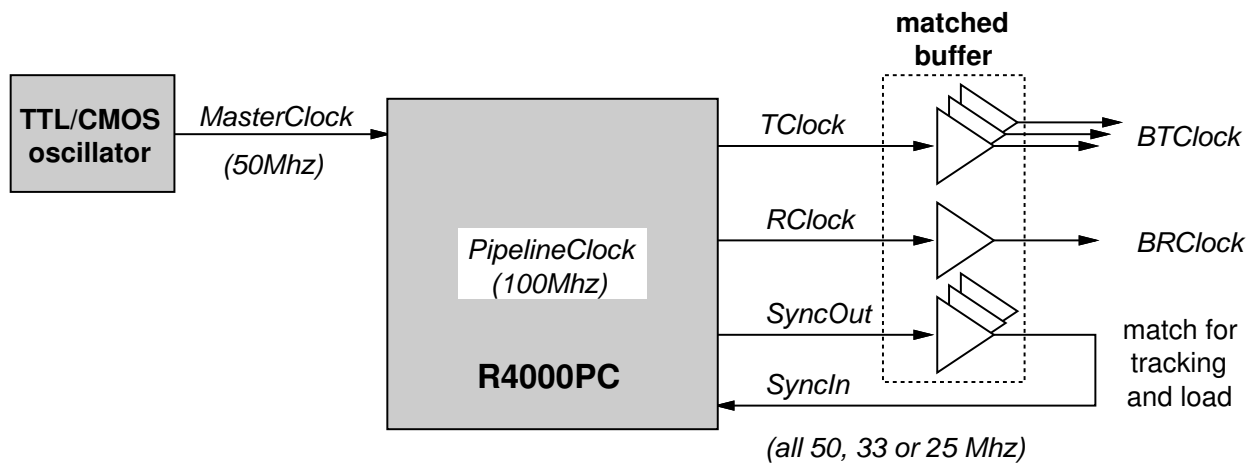

Figure 4.1 Clock wiring cookbook
This section describes the mechanisms which make it possible to run the interface at very high clock rates. This reduces to the provision of clocks to the interface logic which very accurately track the bus interface signals. The clock wiring is shown in Figure 4.1:
- the CPU is fed by *MasterClock*; when anyone refers to a “50Mhz” R4x00 they mean the maximum usable *MasterClock* frequency. The numbers on Figure 4.1” are examples, of course.